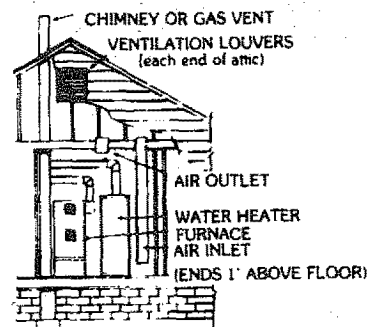

Figure 4
2. When communicating with the outdoors through vertical ducts, each opening shall have a minimum free area of 1 square inch per 4,000 Btu per hour of total input rating of all equipment in the enclosure. (See Figure 4.)